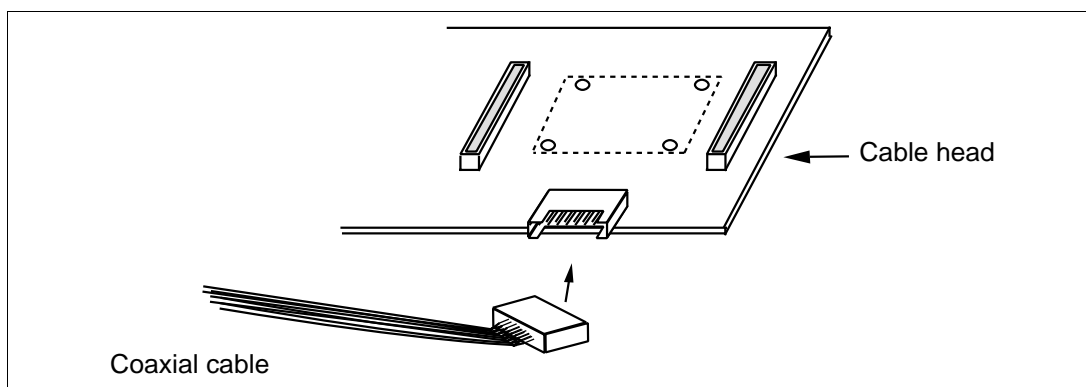

Figure 9 Connecting Coaxial Cable
4. To send the OSD and servo system controlling signals, a coaxial cable must be connected to the user system cable head. Figure 9 shows the oscillator circuits on the user system interface cable.